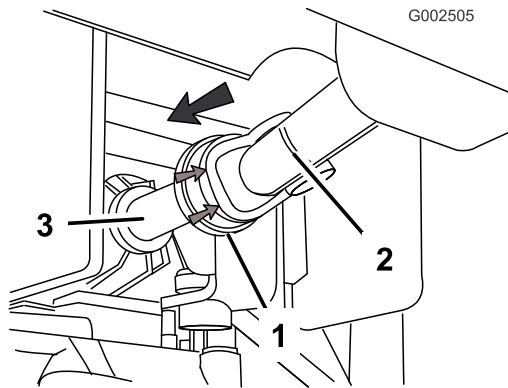

Figure 22
- Pull rearward on the rubber cowling of the front of the PTO drive shaft (Figure 22).
- Install the drive shaft onto the PTO output shaft (Figure 22).